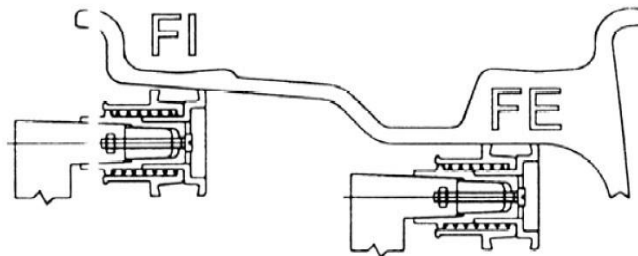

Fig 9
- aI distance value: Pull out the gauge according fig 9 read the value from the gauge and input value through **a+** **a-**
- aE distance value: Pull out the gauge according fig 9 read the value from the gauge and input value through **a+** **a-**